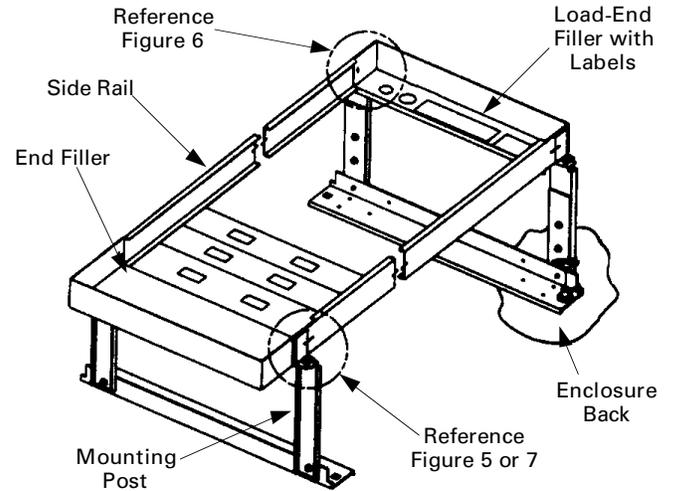

Figure 3. Deadfront assembly removed.
1. For ease of installation, it is necessary to remove the filler plates and, if provided, the deadfront assembly. When removing the deadfront, remove only the side rails and line-end filler plate, leaving the mounting posts and load-end filler attached, as shown in Figure 3. Follow the instructions for removal provided with each device, and set aside.